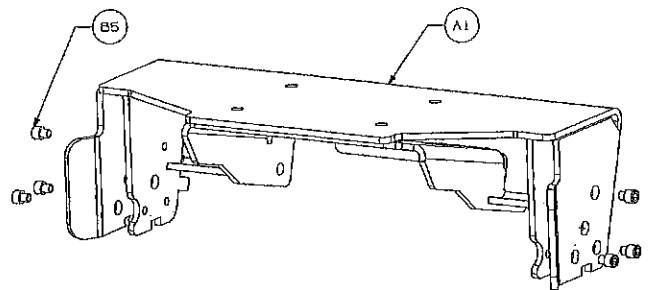

Figure 2
4. Use tap to clean threads in plow mount of any paint build up. Install fasteners (B5) in plow mount. See figure 2.